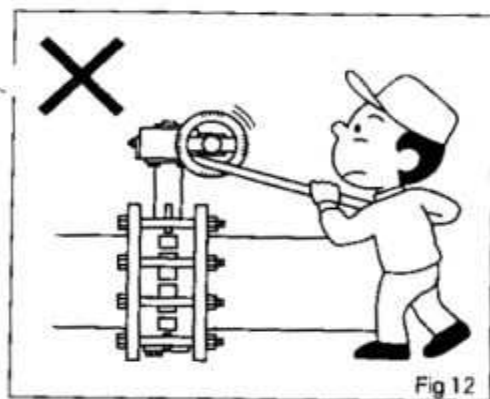

Fig 12
- **Cares while operating the valve with a handwheel** : Be sure to turn the handwheel by the hand. Do not turn the handwheel with a wrench or lever in order not to cause trouble. (Fig12)